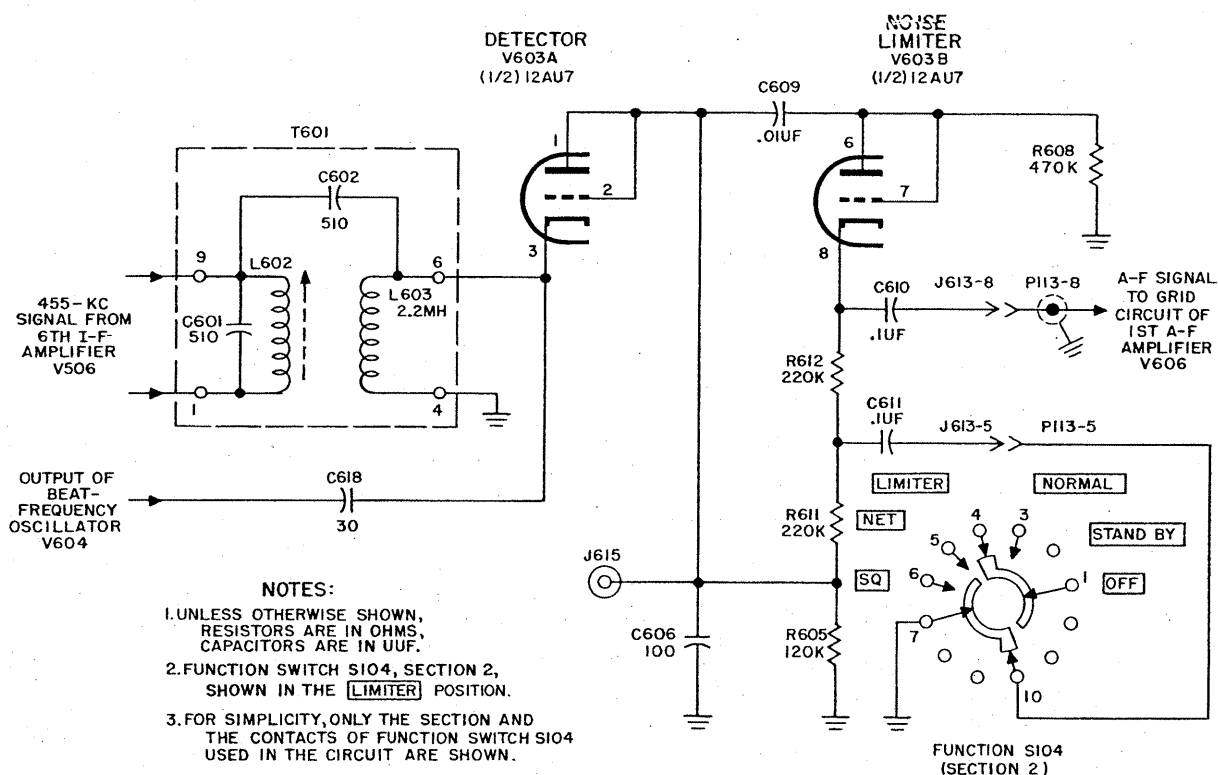

Figure 12. Detector and noise limiter, simplified schematic diagram.
(fig. 12)
- (3) An agc voltage is developed when a signal of approximately 3 to 5 microvolts is applied to the antenna and the RF GAIN SQUELCH THRESH control is maximum clockwise. This rf signal level is the minimum signal (rf threshold) required to cause agc action. It develops a voltage of approximately 3.2 volts dc across the detector (V603A) load resistor R605 (fig. 12). When the RF GAIN SQUELCH THRESH control is at a lower gain setting, a larger rf signal is required at the antenna to produce agc action.
- (4) Agc delay bias is obtained from +28-volt voltage divider R610 and R609; the voltage across R609 is applied to the cathode of V602A.